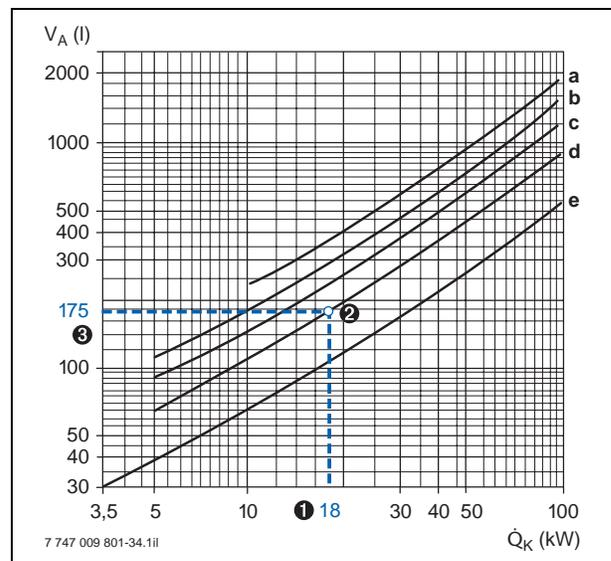

Fig. 64 Standard values for the average water content of heating systems (acc. to ZVH guideline 12.02 [Germany])
Subject to various heating system parameters, the system volume can be checked in fig. 64.
- ③ Total system water content = 175 l (→ fig. 64, curve d)
The system volume checked in accordance with point ③ from fig. 64 must be less than the maximum permissible system volume ④. Select a larger diaphragm expansion vessel if that is not the case.
- ③ System volume ( $\rightarrow$  fig. 64):  $V_A = 175\text{ l}$
- ④ A MAG with 18 l capacity is required ( $\rightarrow$  tab. 27), as the system volume ③ determined in accordance with fig. 64 is less than the maximum permissible system volume.